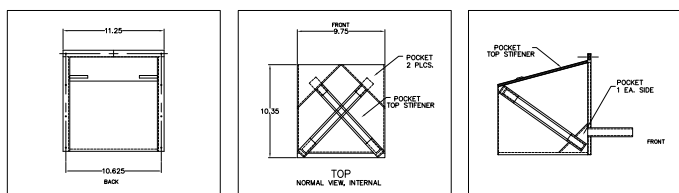

Figure A.1. Rain hood stiffener pockets
4. Fold both supports out and re-insert them into the two pockets, shown in Figure A.1, in the lower corners of the soft side flaps. This will hold the rain hood fully open for use, which is necessary for proper cooling of the 700-HP loudspeaker's electronics.